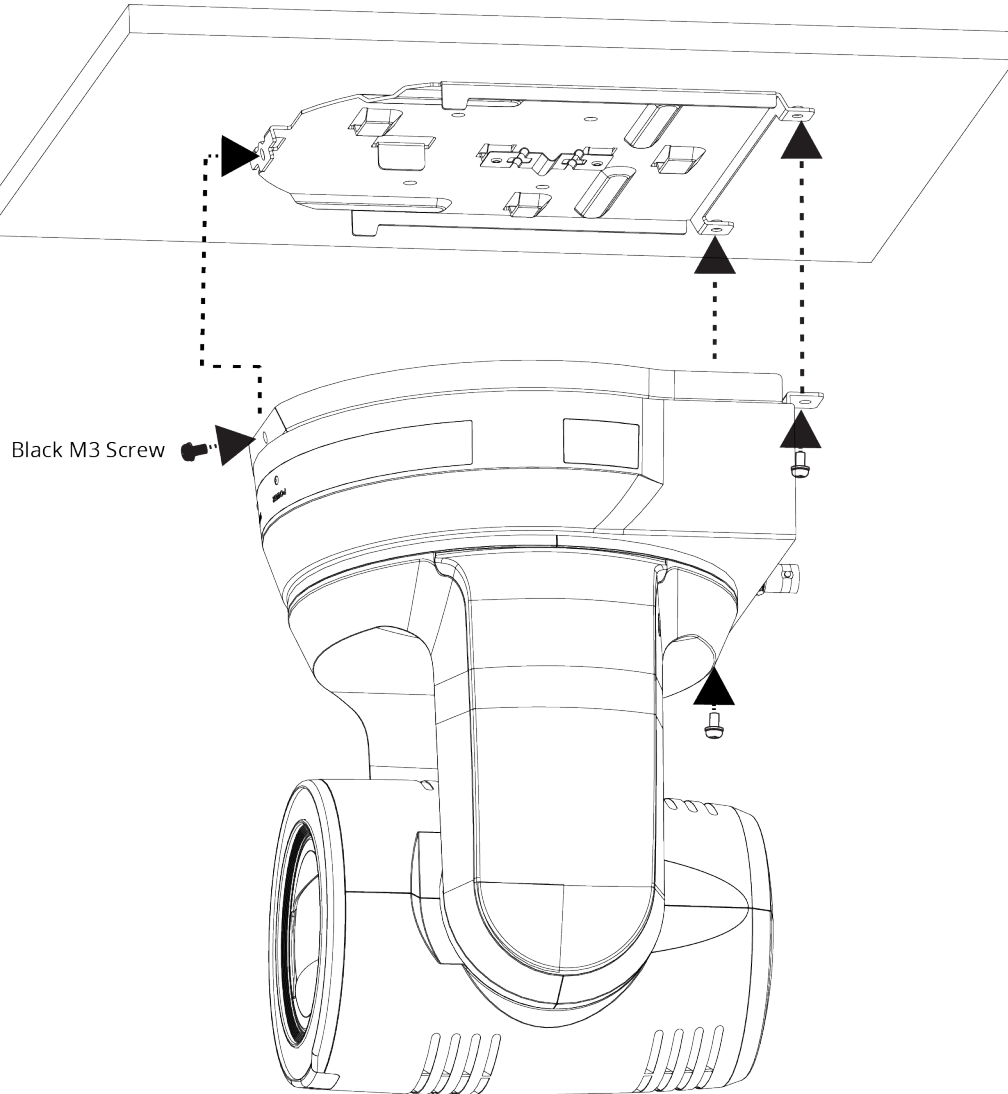

Figure 17 - Fastening Mounting Plates Together, to Mount the Camera to the Ceiling
4. Align the two metal plates and then fasten them together using two silver M3 screws (back) and one black M3 screw (front). Screws are included. See Figure 17.